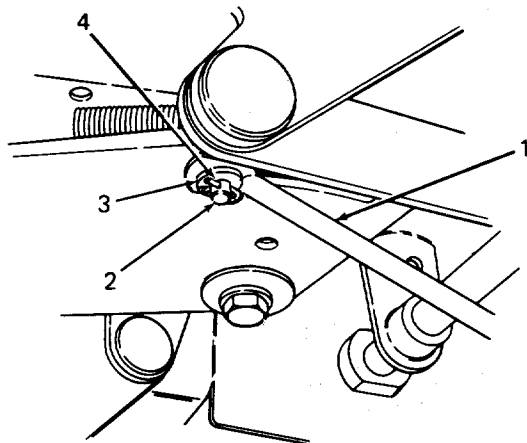

Figure 52
- Place the brake rod on the clutch rod. Secure with a flat washer and hairpin cotter. (Refer to Figure 52.)